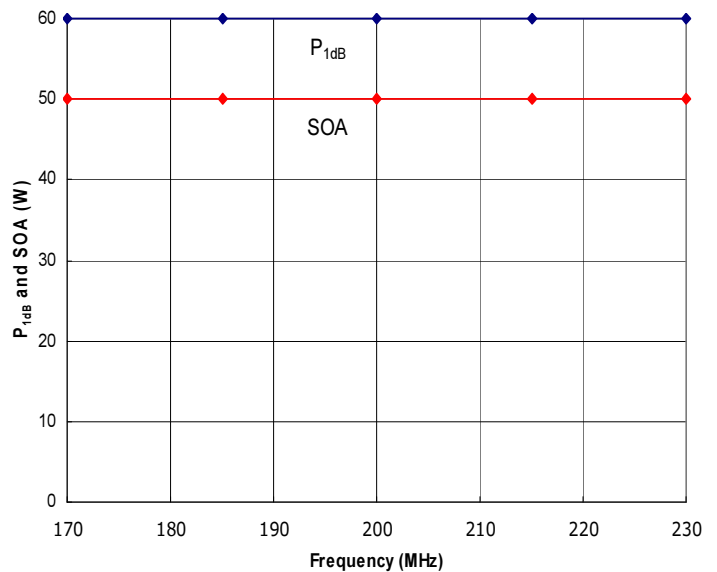

Figure 4: RFPS170-230-50 Typical P_{1dB} and Safe Operating Area (SOA).
- 5) Apply RF drive to achieve desired output level. Ensure that the Safe Operating Area (SOA) power level indicated in Figure 4 is not exceeded, or amplifier damage may occur, and will void the warranty.